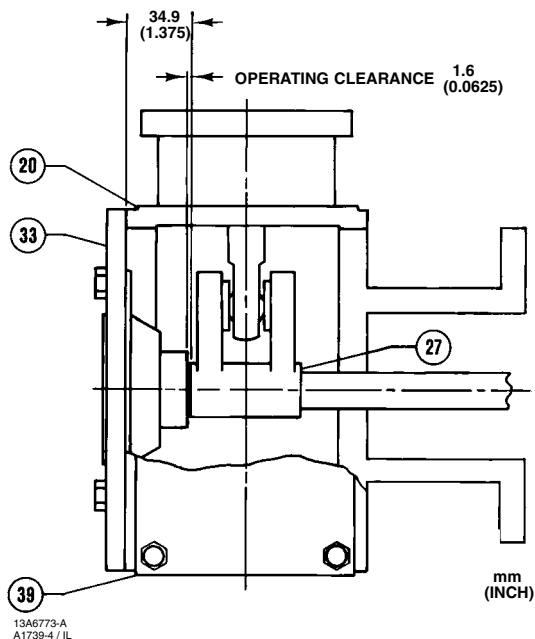

Figure 4. Lever Operating Clearance
5. Screw the left-hand threaded locknut (key 58) onto the diaphragm rod (key 10) as far as possible.
6. Screw the turnbuckle (key 57) as far as it will go onto the actuator rod.
7. Screw the locknut (key 16) as far as it will go onto the rod end bearing (key 17). Thread this assembly completely into the turnbuckle (key 57).
8. If the lever (key 27) is attached to the rod end bearing, remove the cap screw and hex nut (keys 18 and 19).
10. Consult the appropriate valve instruction manual's Installation section for lever/valve shaft orientation marks, and slide the lever into place (see figure 4). Clamp with the cap screw (key 28).
11. Rotate the lever (key 27) to align with the rod end bearing (key 17). This connection can be aided by moving the actuator off its up travel stop with a regulated air source and adjusting the turnbuckle (key 57) slightly.
12. Apply sealant (key 77) or equivalent thread-locking compound to the threads of the cap screw (key 18).
13. Connect the lever (key 27) and the rod end bearing (key 17) with the cap screw and hex nut (keys 18 and 19). Tighten the cap screw to the recommended bolt torque shown in table 3.
14. Note the valve position and direction of rotation. Position the travel indicator (key 37) accordingly.
- a. If no handwheel actuator is to be used, position the travel indicator (key 37) according to